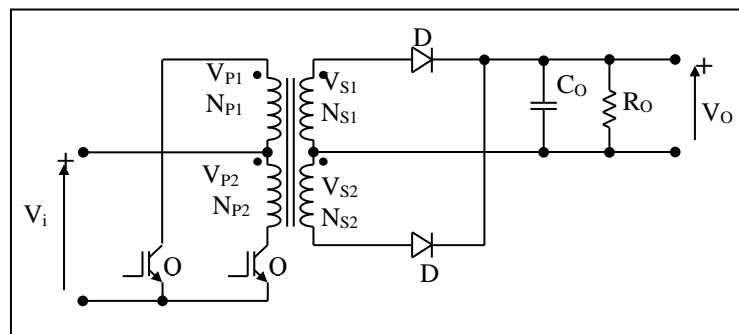

Figure 2
4.1 The average DC input voltage of the switch mode DC power supply circuit shown in figure 2, is 310V. The output ripple current is negligible and the load resistance is 2Ω . The transformer turns ratio (N_s/N_p) is 0.16 and the duty cycle is set to 50%. The on state voltage drops of the IGBT's and diode's is 1.2V and 0.7V respectively. Assume the transformer losses to be negligible.
4.1.5 What is this circuit topology in figure 2, commonly referred to as? (1)